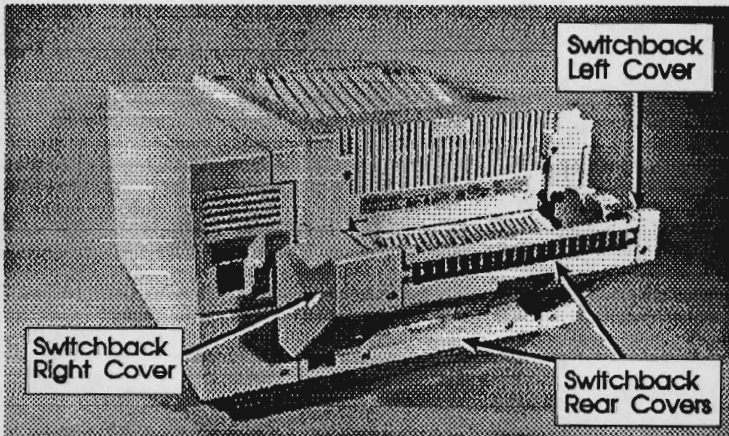

Figure 6-14. Switchback Assembly Covers (HP 33447)
1. Remove the screws that secure the side covers as shown in (Figure 6-14).